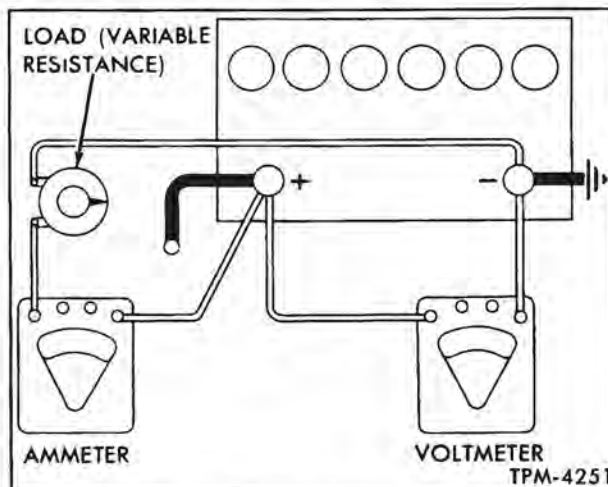

Figure 2—Typical Test Hook-Up For Battery Capacity Test
1. Connect positive voltmeter and ammeter leads to battery positive post, and connect negative voltmeter and ammeter leads to battery negative post (fig. 2). **NOTE:** Ammeter cable clips must contact battery posts; voltmeter cable clips must contact battery post or cable clamp, not the ammeter cable clips.